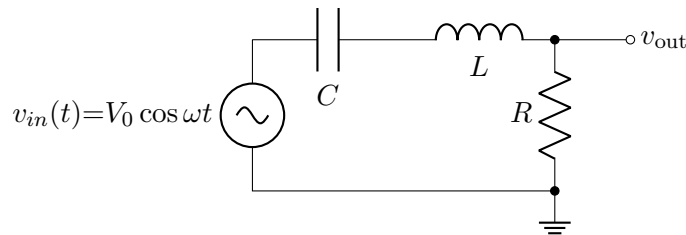

Figure 3: A resonant L - C - R filter
3. Construct the resonant filter circuit shown in Fig. 3. Use $C = 50 \text{ nF}$ and $R = 100 \Omega$ (“10×” decade, full scale). The inductance is $L \approx 20 \text{ mH}$. (If you use the same inductor as for the AC Wheatstone Bridge experiment, you know L to within 2%.) Calculate the circuit’s predicted resonance frequency, $f_0 = \omega_0/2\pi = 1/2\pi\sqrt{LC}$.